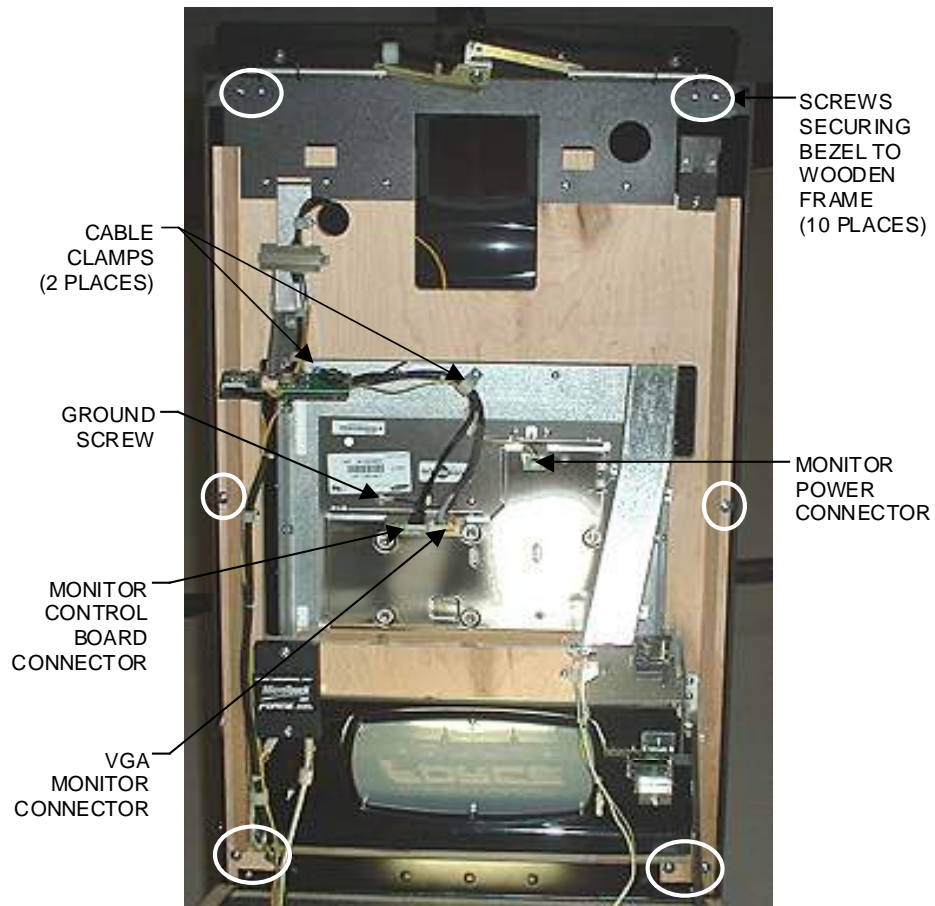

FIGURE 8 - FORCE FUSION WITHOUT ELECTRONICS BOX - UNDERSIDE OF BEZEL
3. Disconnect the VGA monitor connector and ground screw, the monitor control board connector, and the monitor power connector; also remove the cables from the 2 clamps attached to the monitor. See Figure 8.
5. Remove the 10 screws securing the plastic bezel to the wooden frame (see Figure 8) and carefully remove the bezel from the game. Be careful not to damage the bezel with the coin cup during removal.
4. Carefully replace the plastic bezel assembly in the game, making sure the coin cup protrudes into the lower cutout and no wires are pinched, then secure it to the wooden frame with the 10 screws (see Figure 8).
7. Connect the VGA monitor connector and ground screw (do not over-tighten), the monitor control board connector, and the monitor power connector (see Figure 8) to the new monitor and replace the cables in the 2 clamps attached to the monitor.